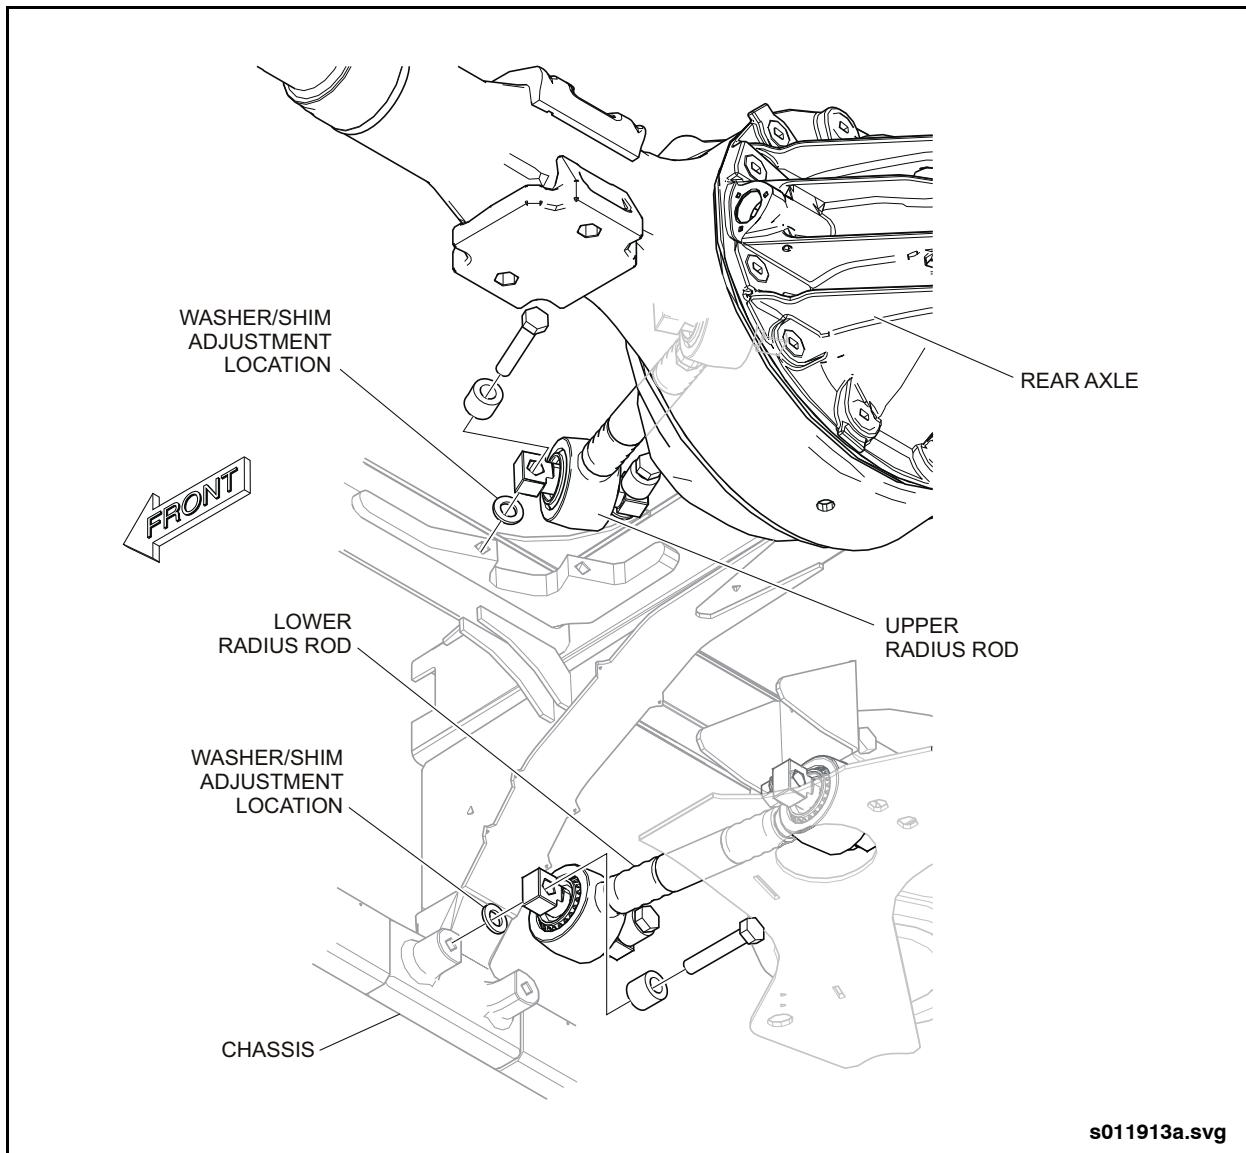

Fig. 3-4: Rear Thrust Angle Adjustment
5. Loosen radius rod to frame attaching bolts on the side requiring adjustment. See "Fig. 3-4: Rear Thrust Angle Adjustment" on page 10.